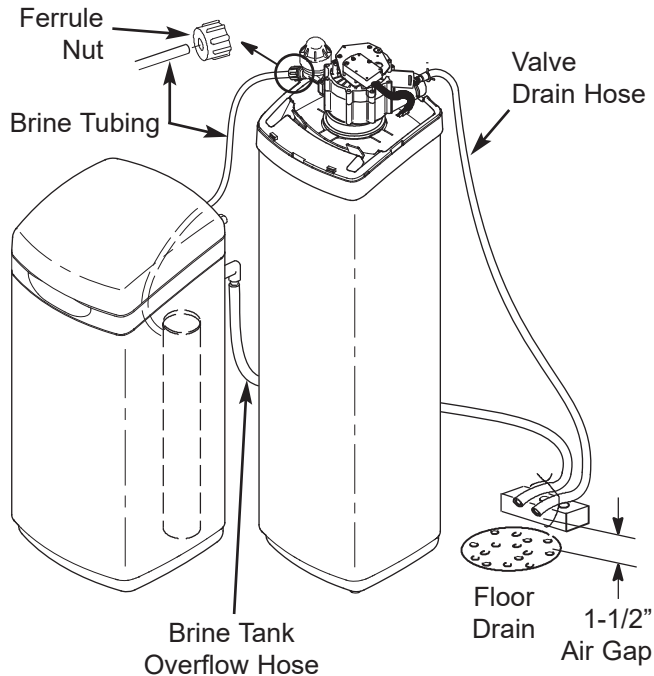

FIG. 11
- Connect the brine tube to the nozzle/venturi assembly using the ferrule nut provided (See Figure 11).